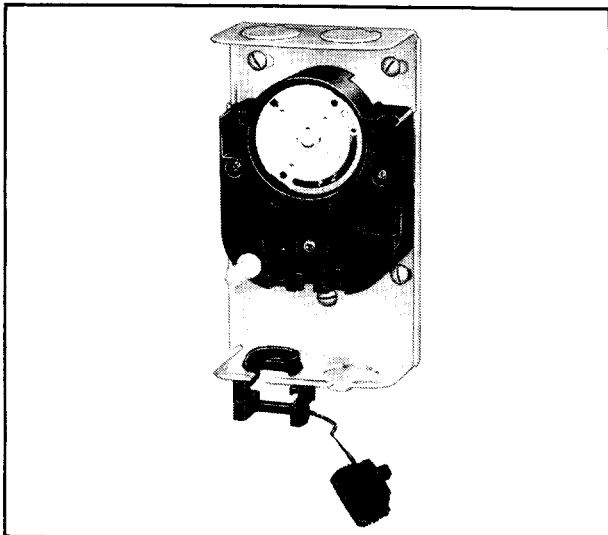

FIG. 9—INSERT STRAIN RELIEF BUSHING.
2. If cable is used, we recommend using a strain relief bushing in the knockout (Fig. 9). Bushing is available from your local electrical supply. The open side of the bushing should face the open side of the knockout.